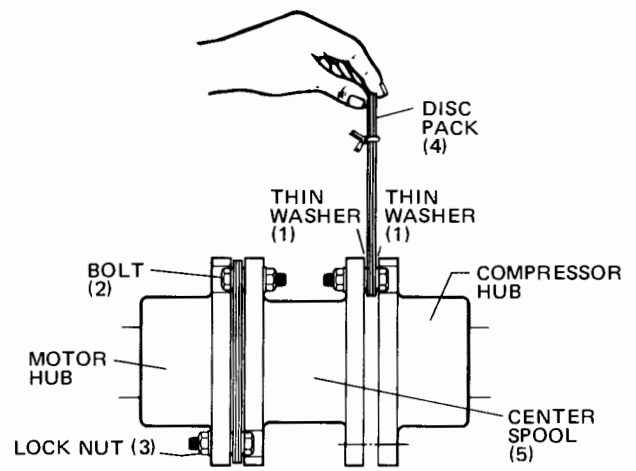

FIG. 8 – DISC PACK ASSEMBLED BETWEEN COMPRESSOR HUB AND CENTER SPOOL
3. To assemble the center spool and disc pack to the compressor hub use the following procedure: (Refer to Fig. 8).